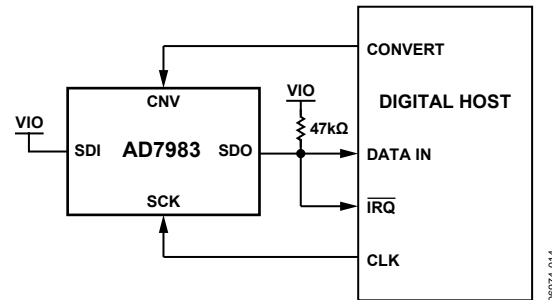
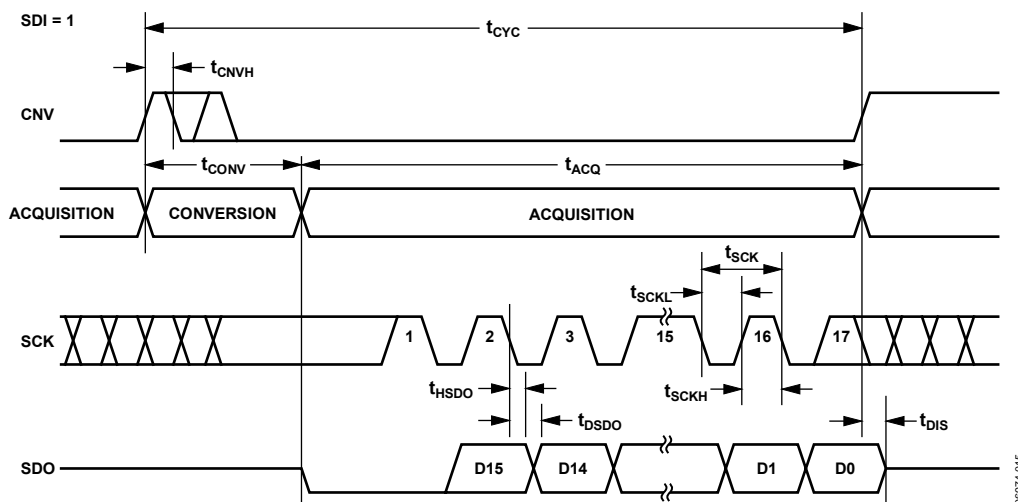
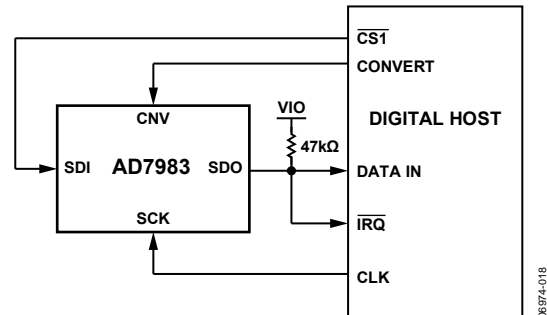
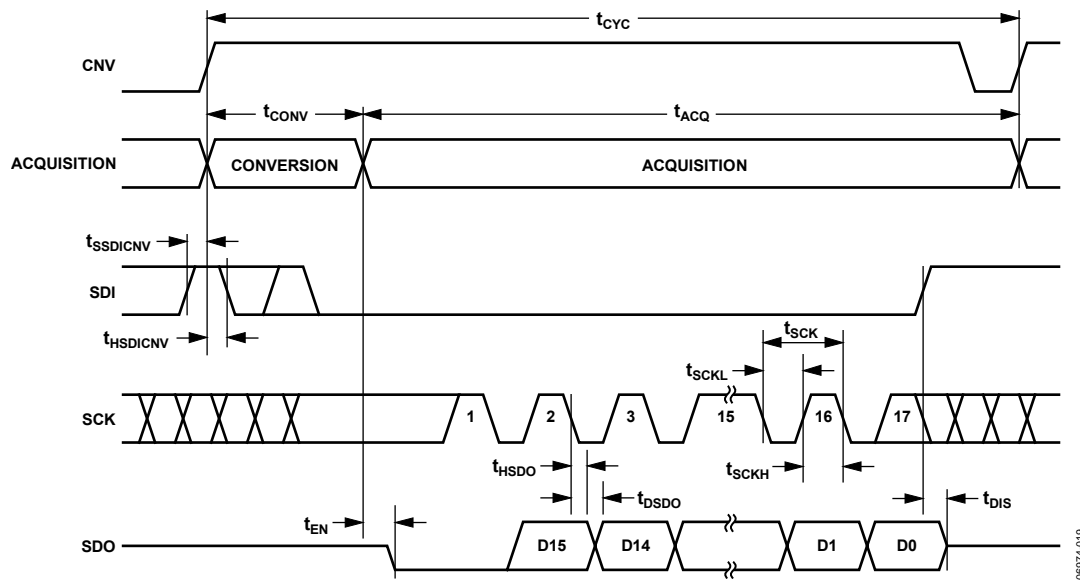

Figure 28. $\overline{\text{CS}}$ Mode, 3-Wire with Busy Indicator Connection Diagram (SDI High)
Figure 29. $\overline{\text{CS}}$ Mode, 3-Wire with Busy Indicator Serial Interface Timing (SDI High)
Figure 32. \overline{CS} Mode, 4-Wire with Busy Indicator Connection Diagram
Figure 33. \overline{CS} Mode, 4-Wire with Busy Indicator Serial Interface Timing
- In \overline{CS} mode if CNV or SDI is low when the ADC conversion ends (see Figure 29 and Figure 33).
The connection diagram is shown in Figure 28, and the corresponding timing is given in Figure 29.
The connection diagram is shown in Figure 32, and the corresponding timing is given in Figure 33.